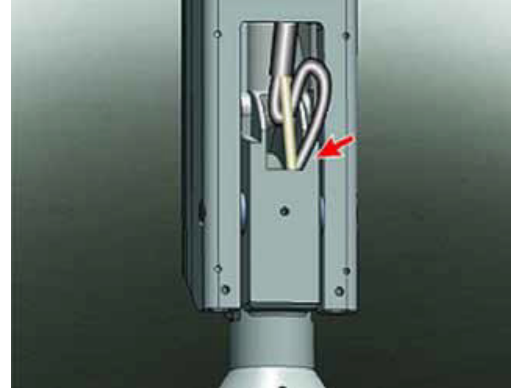
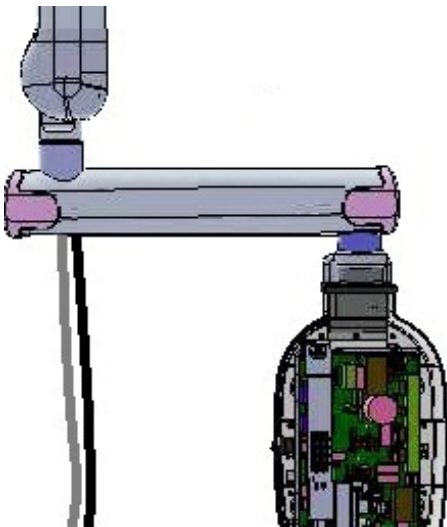
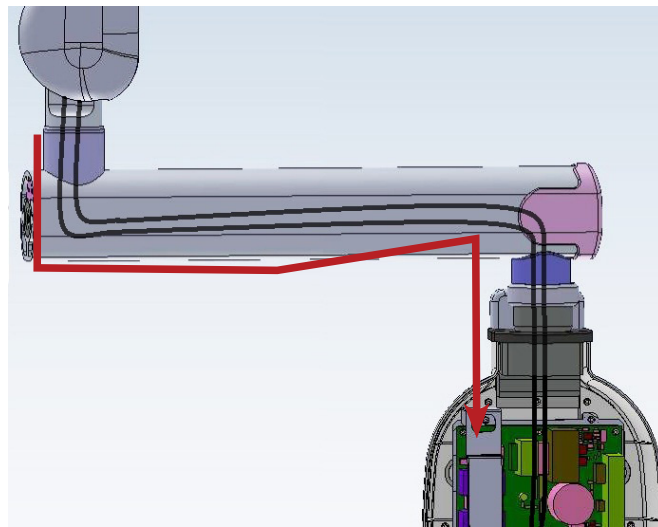

Figure 72
Figure 73
Figure 74
- Insert the scissor-arm cable(first communication cable and then Inverter power cable) into the scissor arm swivel guide as shown in the Figure 72 such that it comes out from the bottom hole of the straight arm as shown in the Figure 73. Use guide wire to route the cables through the straight arm till it comes inside the base unit as shown in Figure 74.